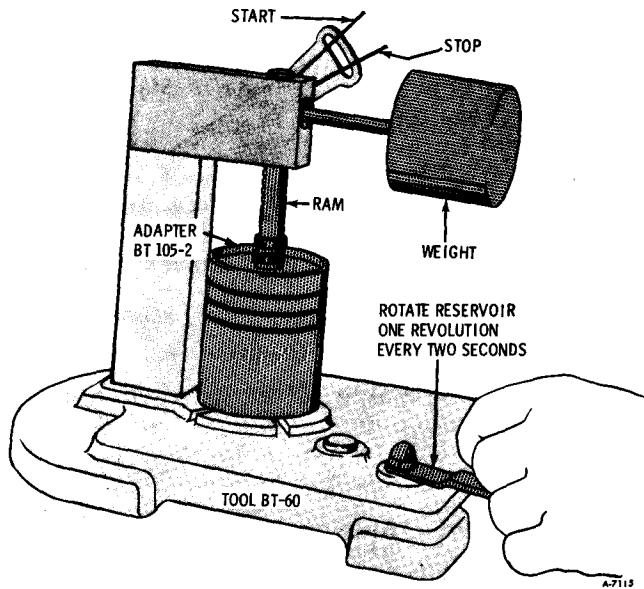

Figure 27—Valve Lifter Testing
16. Raise arm, then start test by resting ram on steel ball. Rotate reservoir one revolution every two seconds and time the indicator from the start to the stop line (figure 27). Allowable leak down rate is six seconds minimum for used lifters and 9 to 60 seconds for new lifters.